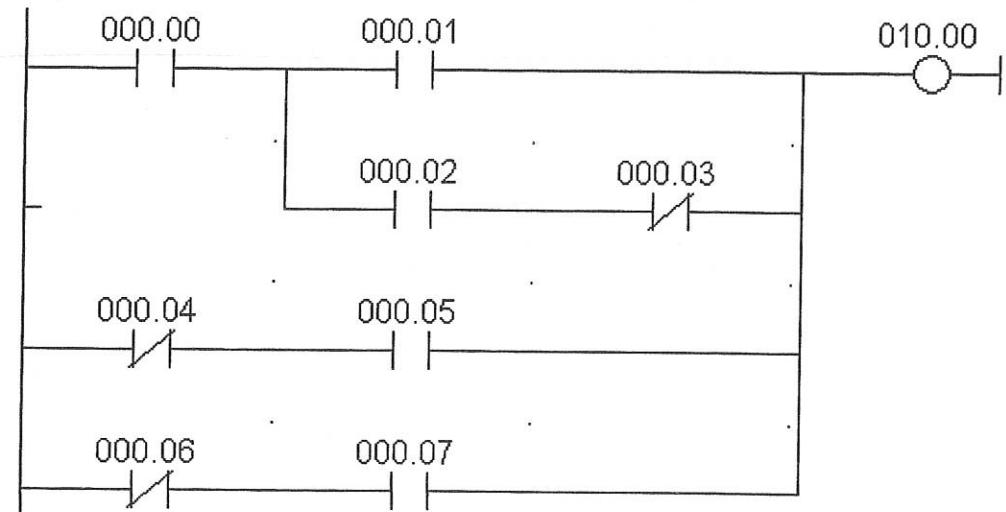

Figure A3(b) / Rajah A3(b)
- CLO1 C2 (b) By referring to the ladder diagram in Figure A3(b) below, state the mnemonic code.